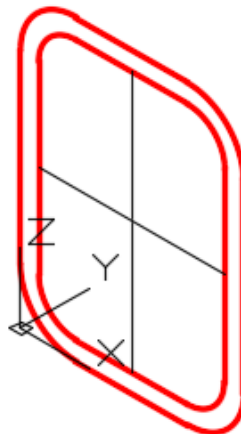

Figure Step 7
Step 7 On layer: Construction, draw in two construction lines from midpoint of the lines to find the exact center of the object. (Figure Step 7)